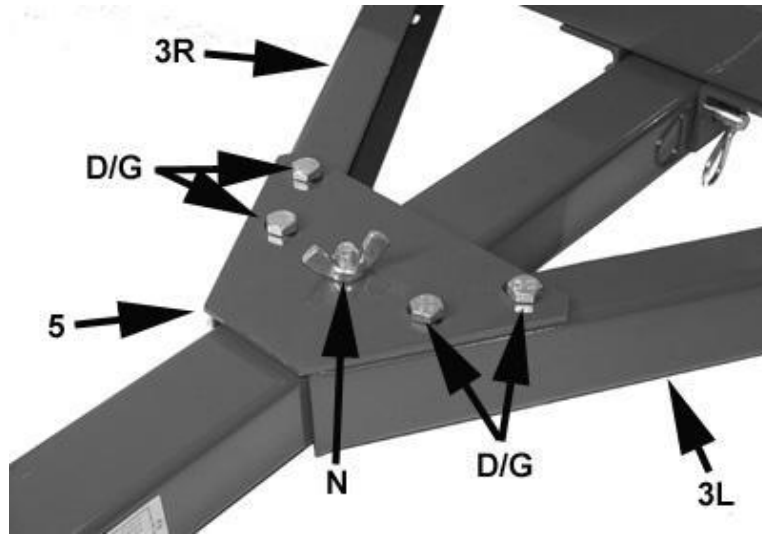

Figure 2-4
11. Install "T" plate (5) onto tow bar and install wing nut (N). Connect "T" plate (5) to connecting rails (3L) and (3R) with M10 x 20 bolts (D) and M10 nylon lock nuts (G). See figure 2-4.